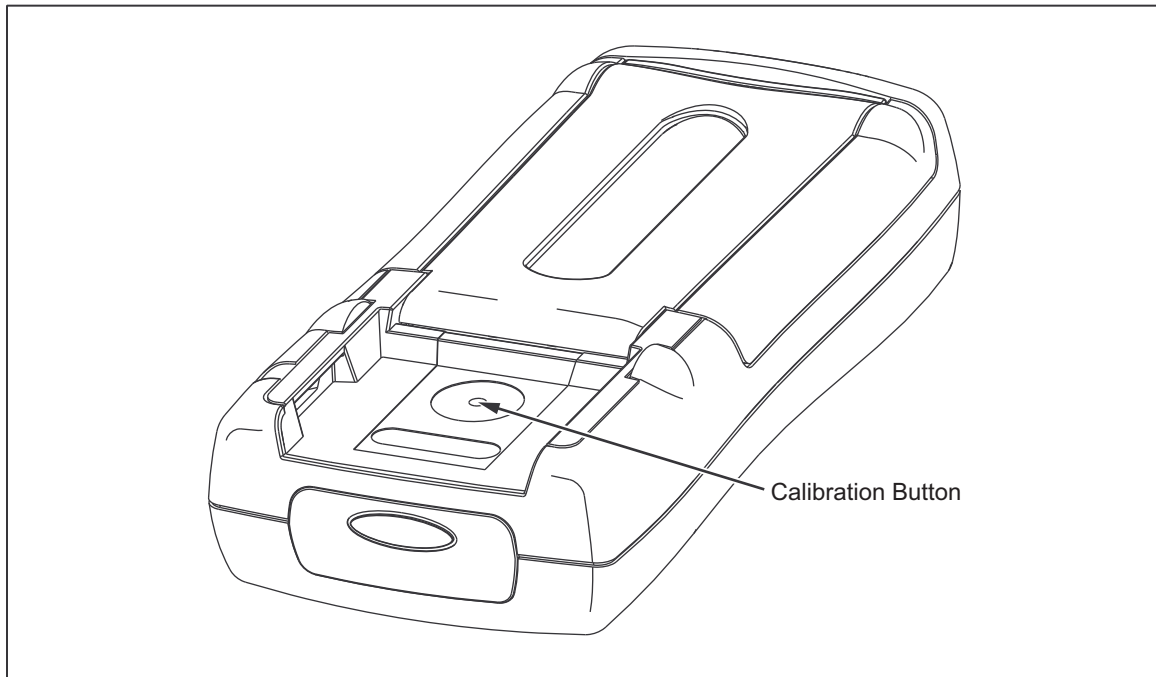

Figure 11. Calibration Button Access
4. Press and hold the Calibration Button for approximately 2 seconds. The unit will beep (see Figure 11).
3. Press and hold the Calibration Button for approximately 2 seconds. The unit will beep (see Figure 11).
3. Press and hold the Calibration Button for 2 seconds (see Figure 11). The unit will beep.
4. Press and hold the Calibration Button for 2 seconds (see Figure 11). The unit will beep.